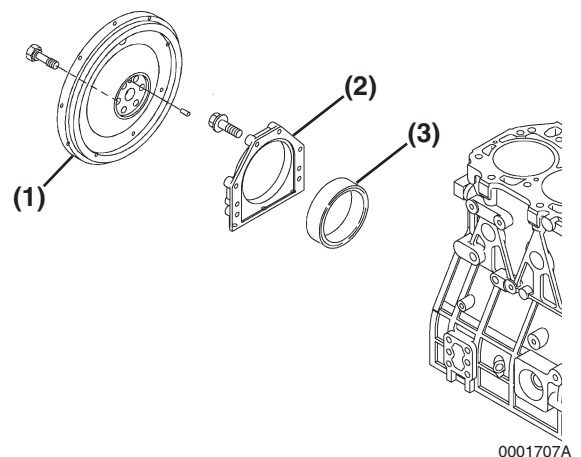

Figure 6-109
3. Remove the rear oil seal (**Figure 6-109, (3)**) from the seal housing (**Figure 6-109, (2)**).
4. Apply a continuous bead of ThreeBond Liquid Gasket No. 1212, Yanmar Part No. 977770-01212 to the outside diameter of a new oil seal (**Figure 6-109, (2)**), and install in the housing. Apply lithium grease to the lip of the seal.